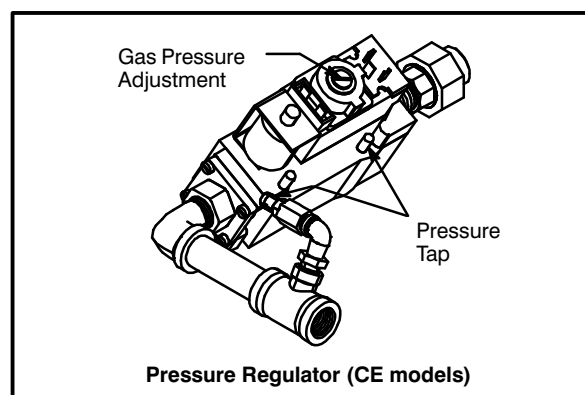

FIGURE 3
7. Adjust gas pressure if necessary, See FIGURE 3.